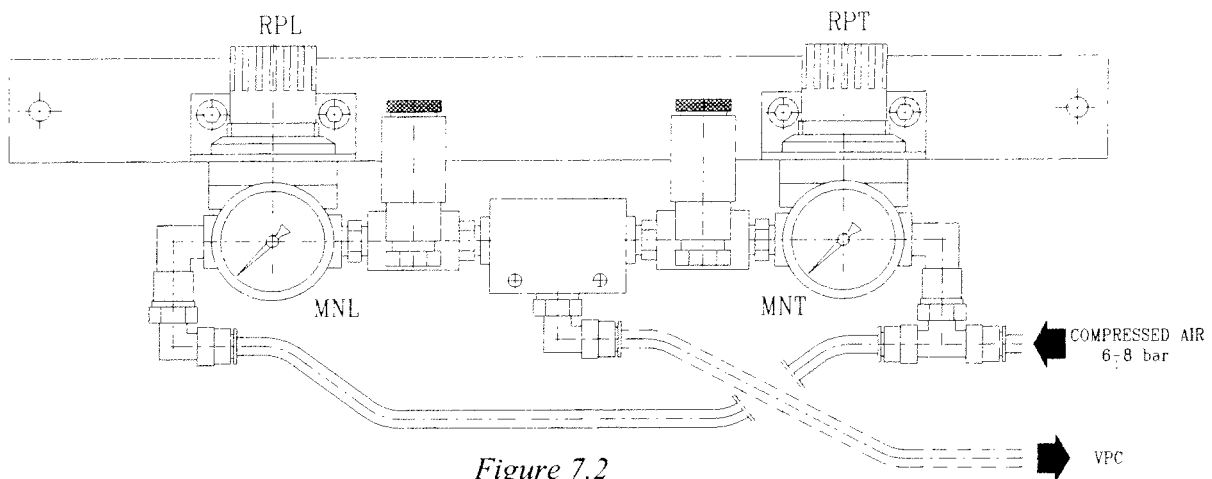

Figure 7.2
- no. 1 constant pressure valve, to maintain constant the counter-pressure at the outlet of the product. The regulation is performed by acting on pressure regulators (RPL, RPT - fig. 7.2) placed on the back side of electric panel;
The supply is complete of the following pneumatic components (fig. 7.2):
- Rotate the pressure regulator of the bowl overflow RPT (fig. 7.2) until on MNT (fig. 7.2) could be read a pressure of about 6 bar.